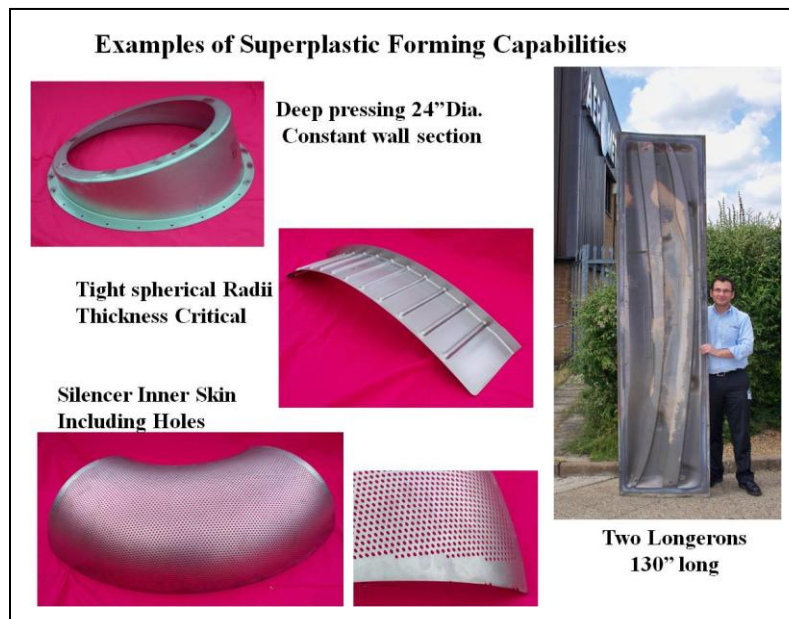

Fig 8
- 2) Deep pressings, Monolithic parts, where were it not for SPF, several individual brackets, frames, angles and plain sheets would be required to create the same product plus assembly time. Figure 8 shows examples of unique SPF parts